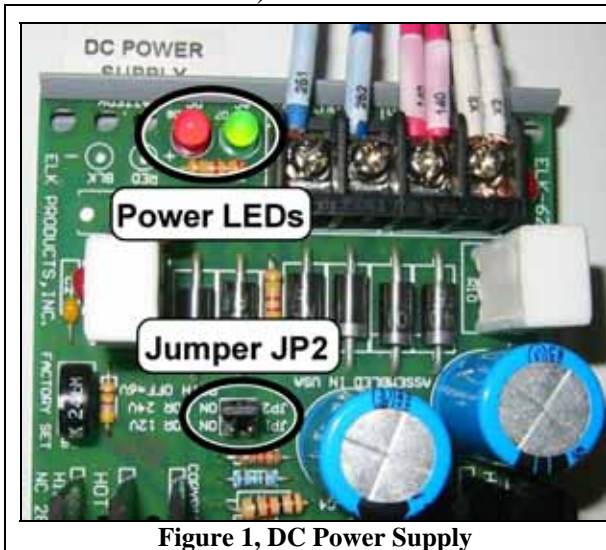

Figure 1, DC Power Supply
Step 1) Check that the DC Power Supply (Figure 1) has both the red and green lights illuminated. If the green light is ON but not the red then service will be required, contact BoldStar Technical.
Step 4) On the DC Power Supply (Figure 1) make sure there is a small jumper placed across JP2 ("On for 24V").
Step 5) On the DC Power Supply (Figure 1) make sure there is a small jumper placed across JP2 (On for 24V).